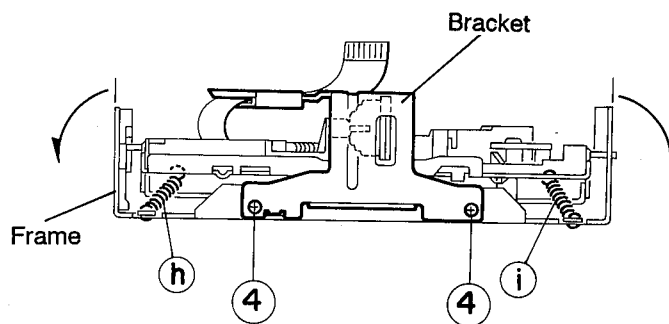

Fig. 4-16
1. Remove the two screws ④ retaining the bracket for fixing the damper (See Fig. 4-16).